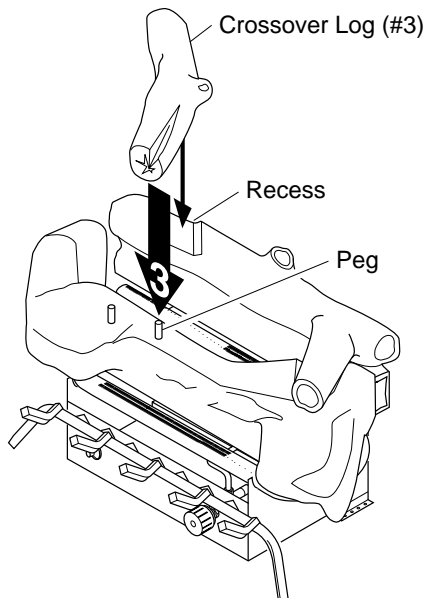

Figure 23 - Installing Crossover Log (#3)
- Place crossover log (#3) onto the pin (right) on middle log (#1) and into the recess of the back log (#2) (see Figure 23).